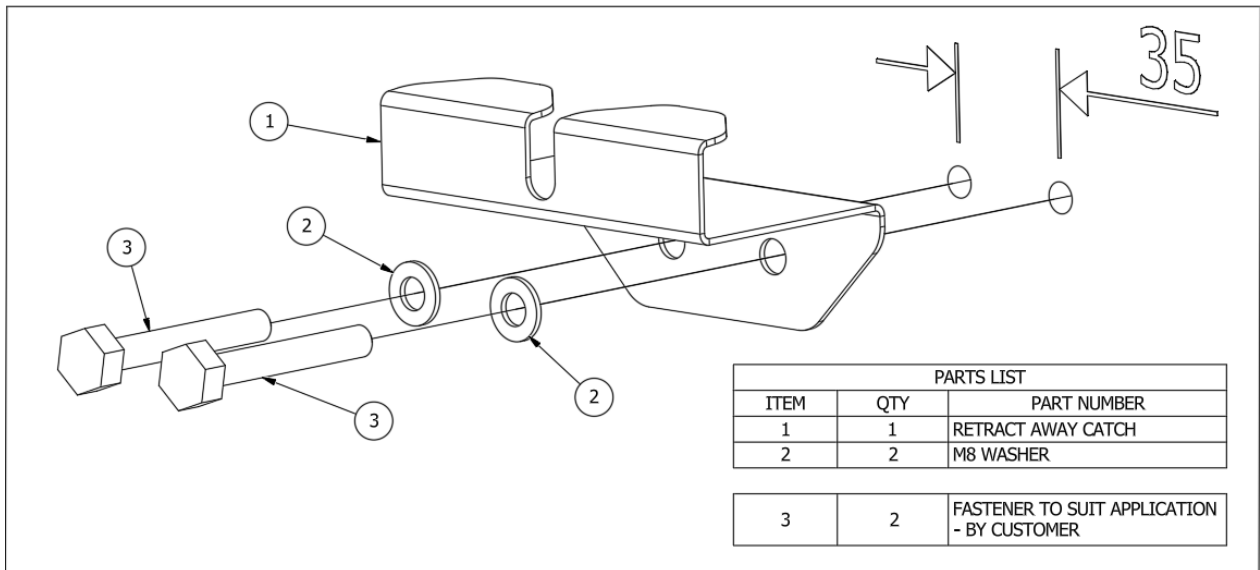

Fig 3. Catch installation to wall.
- Fit Catch (item 1) using fixings that suit your application. See Fig 3. (Fixings not supplied).